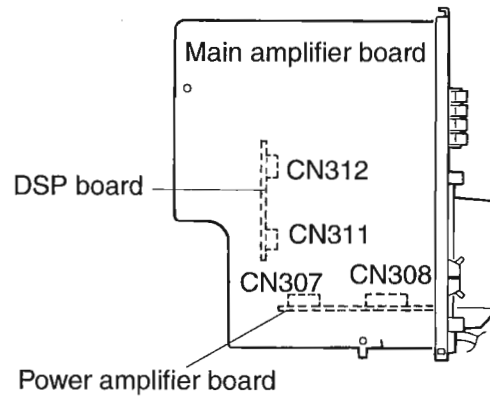

Fig. 3-15
6. Disconnect the connectors CN307 and CN308 on the main amplifier board from the power amplifier board.(See Fig. 3-15)
7. Remove the connectors CN311 and CN312 on the DSP board. (See Fig. 3-15)